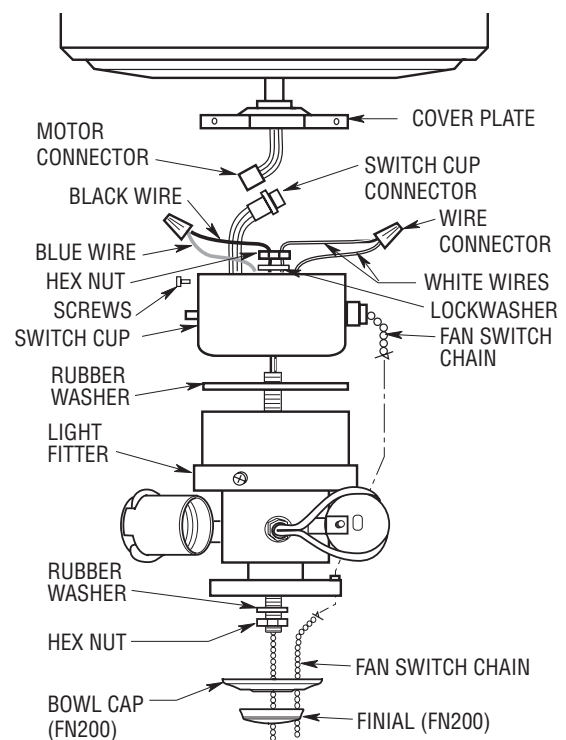
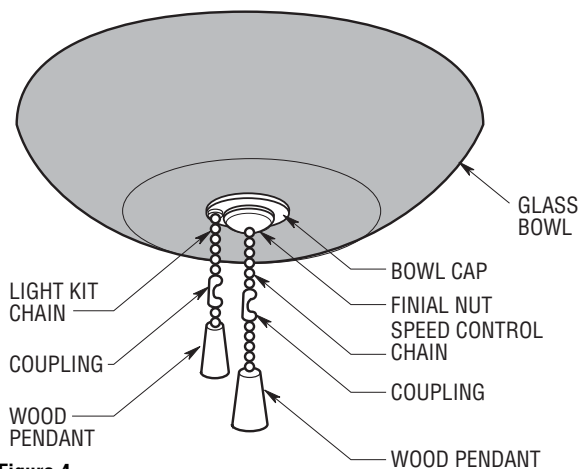

Figure 2
Figure 4
- Insert the black and white wires from the light fitter through the center hole in the switch cup (Figure 2) and thread the switch cup onto the light fitter. Hold wires taut while installing switch cup to prevent the wires from twisting. Tighten the fitter until the fan switch chain aligns with the hole in the fitter.
- Insert the black and white wires through the lock-washer and hex nut (supplied), firmly tighten the hex nut to secure the light kit fitter to the switch cup. Connect the white wire from the switch cup to the white wire of the light fitter (Figure 2). Connect the blue wire from the switch cup to the black wire of the light fitter. Use listed wire connectors (previously removed in Step 5) to make connections (Figures 2 and 3).
- Carefully tuck all wires and splices into the switch cup. (Figure 2.)
13. Gently place the glass bowl onto the light fixture (Figure 4). Secure the glass by installing the rubber washer and thin hex nut finger tight. Then place the bowl cap onto the threaded light fixture, route the fan speed control chain through the outer hole and the fitter chain through the center hole. Install and tighten the finial nut onto the threaded light fixture (Figures 2 or 5).